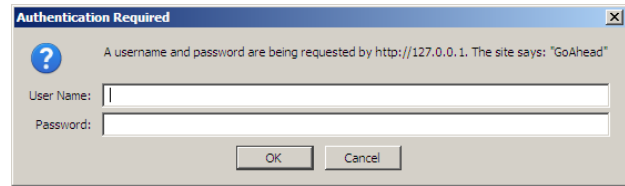

figure 40.2: Logon window
- 4 Click the *Continue* button to access the web interface. A screen similar to the one in figure 40.2 pops up.